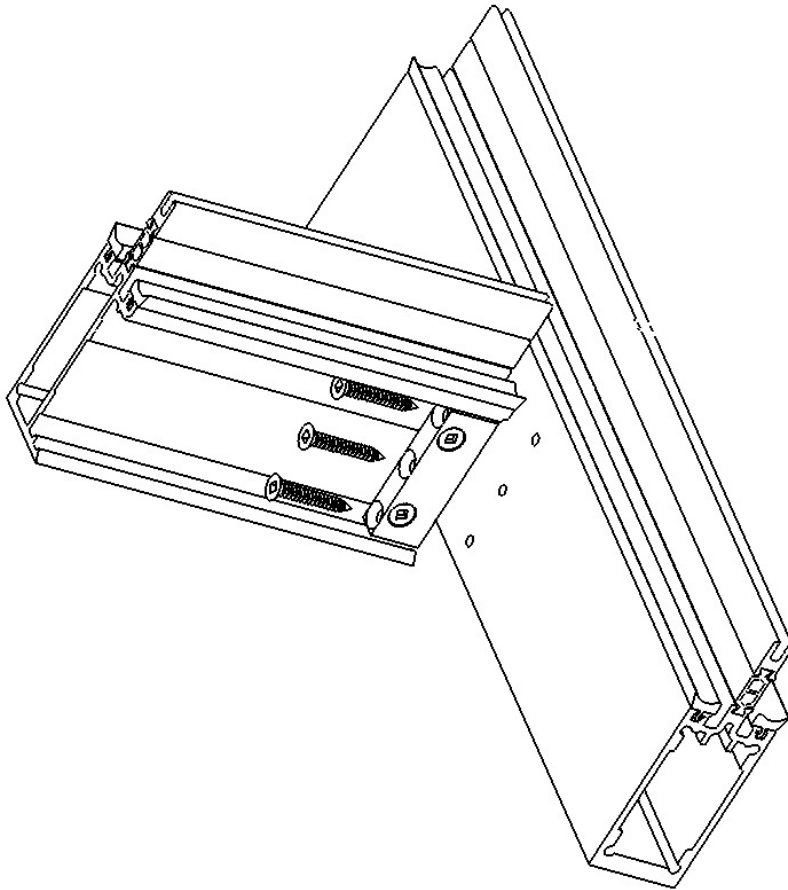

Figure 14
6. Place each of the horizontal T-bars between the vertical T-bars as pictured in Figure 14. The open side of the horizontal T-bar with the pre attached brackets should be facing toward the sill (which will be facing down when the product is finally installed). Secure each end into location with (3) #10 x 1 1/4" screws through the pre-attached brackets into the pre-drilled holes on each of the vertical T-bars. (See Figure 14).